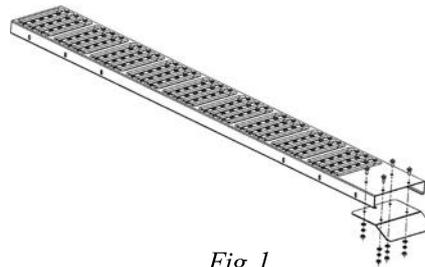

Fig. 1
1. Affix the Ramp Plates (#2) to the Steel Ramps (#1) as shown in Fig. 1. Refer to the Parts Breakdown /Parts List (page 8) for the order in which the hardware (nuts, bolts, washers) should be placed.